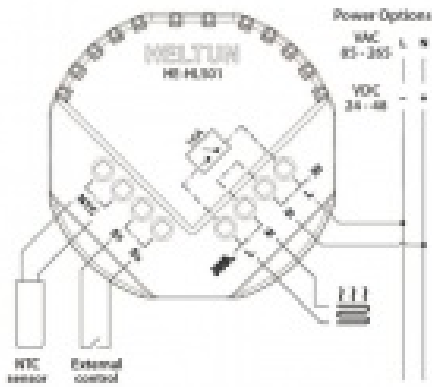

Figure 2: Connection diagram 1
Follow connection diagrams (Figure 2, 3, 4, 5) and the instructions below:
- Connect S1 to Sx through dry contact switch (as in Figures 2 & 3)